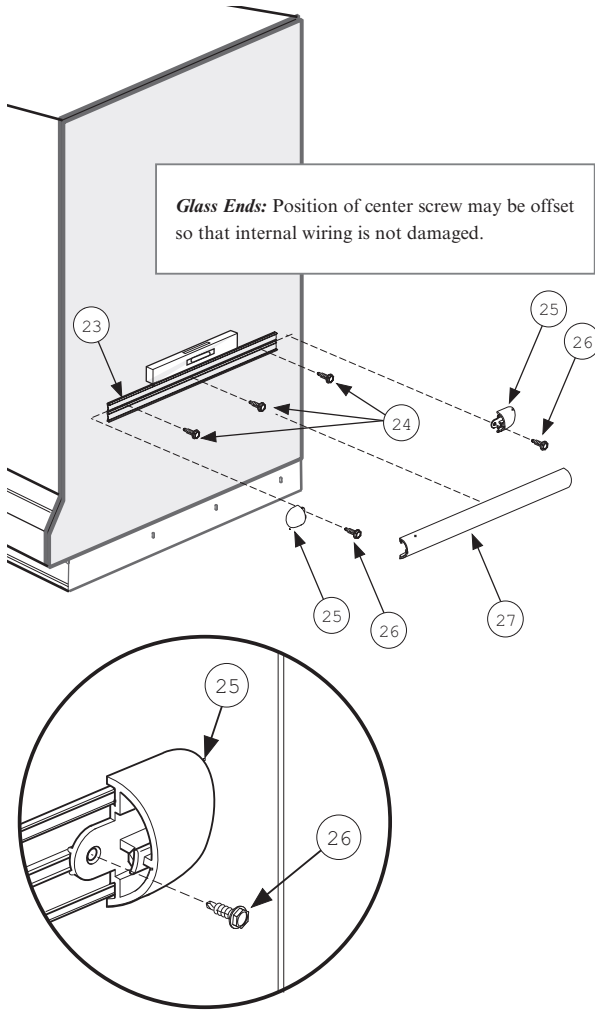
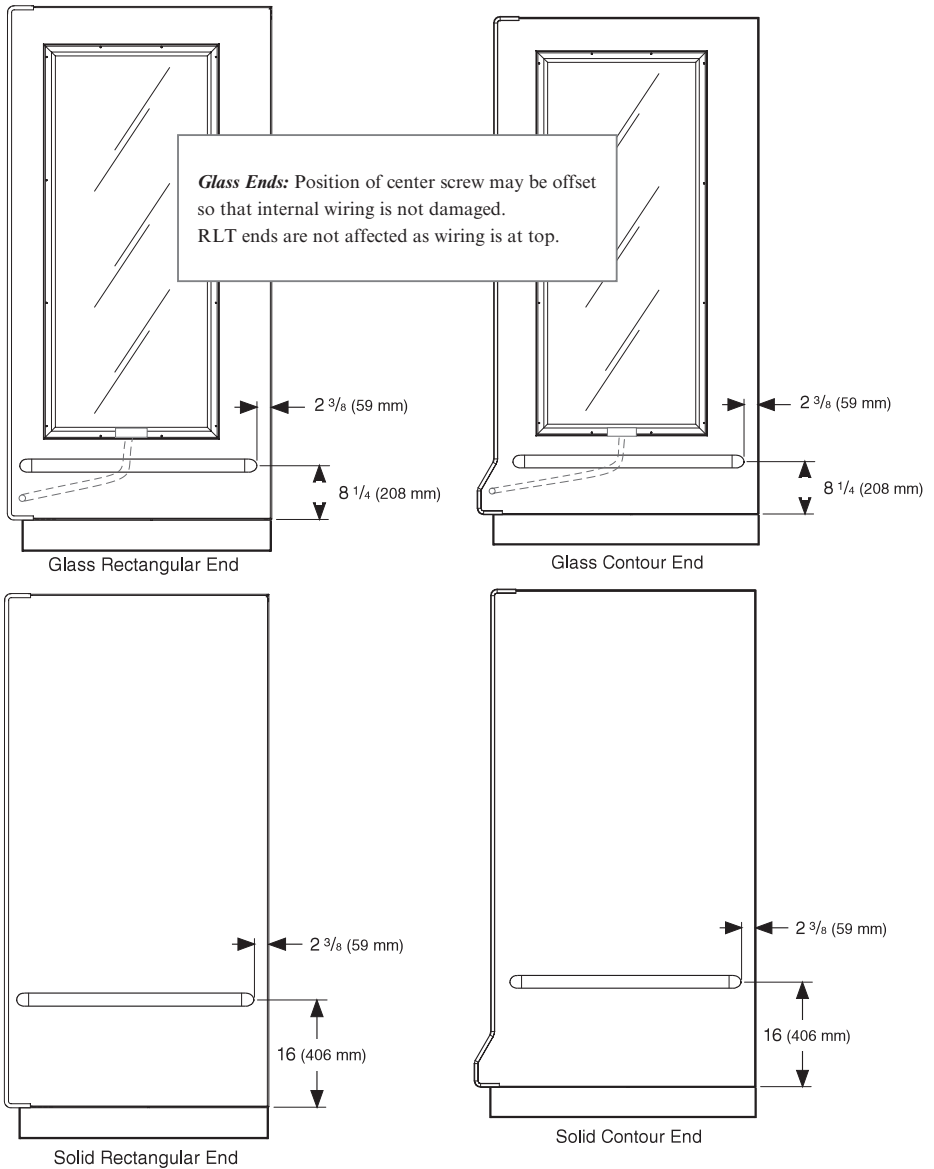

Figure 23. Install Optional End Bumper
Figure 24. Location Optional End Bumper
- 1 Position Bumper Retainer – 23 against End Assembly as shown in Figure 23 and check for level. Refer to Figure 24 to determine placement. Glass Ends: Position of center screw may be offset so that internal wiring is not damaged. Fasten through center-line groove with Screws – 24.